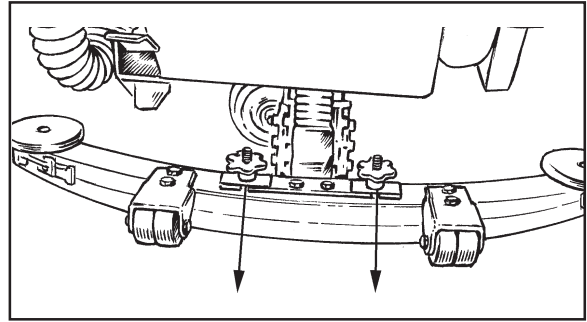

Figure 26
1. Remove the squeegee assembly by loosening the two knobs that attach the squeegee to the machine. Pull the squeegee assembly off. See figure 26.